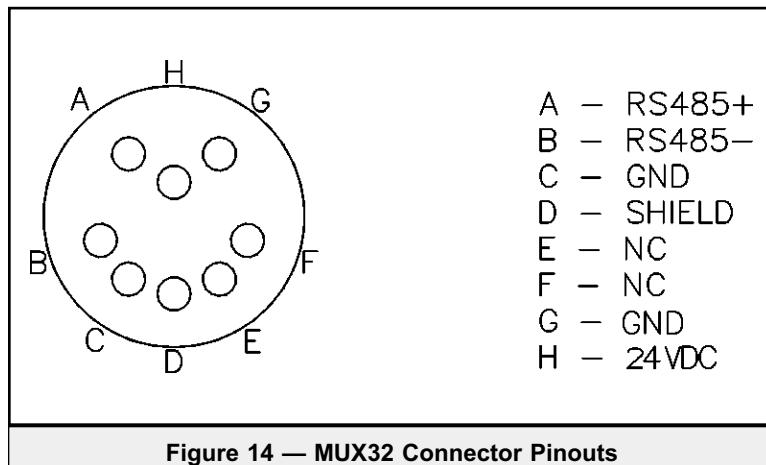

Figure 14 — MUX32 Connector Pinouts
Figure 14 shows the connections for the MUX32/RS485 connector.
If you choose to power the LRP820 from the MUX32 bus, you do not need to make any internal changes to cables and jumpers. Wire power according to the pinouts given for the MUX32 connector in Figure 14, page 16.
6. Wire the MUX32 interface and power according to the pinouts given for the MUX32 connector in Figure 14, page 16.